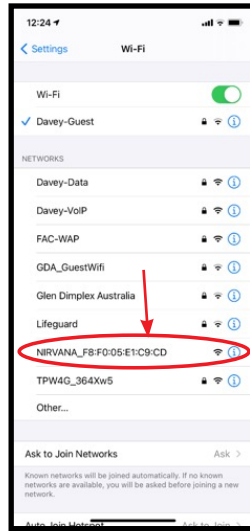

Figure 9.96
- Open your phone settings and go to the Wi-Fi settings, you will see a Nirvana SSID. Click on this to connect to your heat pump (Figure 9.96).